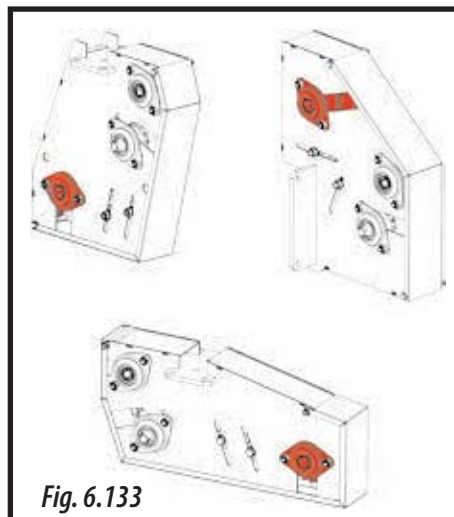
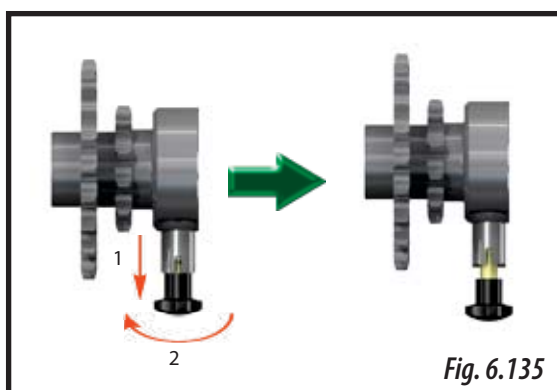
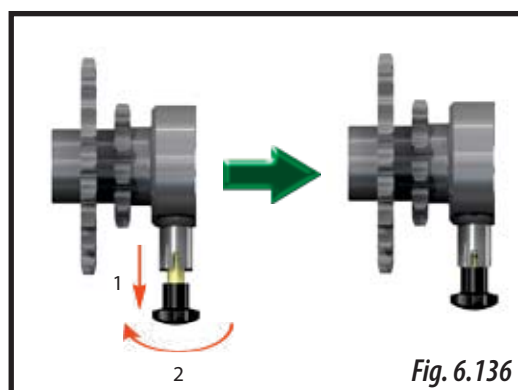

Fig. 6.133
Fig. 6.135
Fig. 6.136
To disconnect the transmission of the micro granulator hoppers, it is necessary to operate on the transmission's box of the micro granulator hoppers (see section 3.1 PLANTER OVERVIEW). There are three types of gearboxes, all of them have the clutch on one of the axles (shown in red, Fig. 6.133).
- 3- In the transmission axle where the clutch is (Fig. 6.133), pull the securing knob and turn it 90° to lock it at the free transmission position (Fig. 6.135).
- 3- On the transmission axle where the clutch is (Fig. 6.133), pull the securing knob and turn it 90° to lock it at the transmission position (Fig. 6.136).